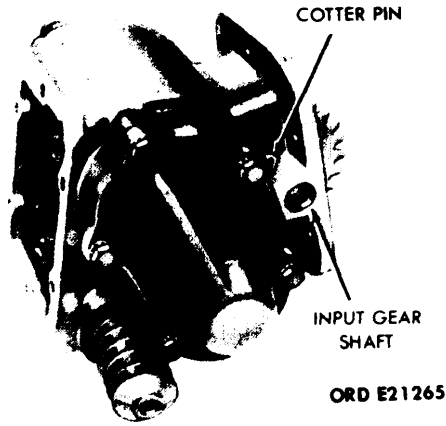

Figure 5-5. Removal of Input Gearshaft.
(1) Remove the input gearshaft cotter pin from the input gearshaft. (See fig. 5-5.) Using a soft driftpin, drive the input gearshaft from the case.
- i. Input gearshaft and input gear. (See fig. 5-5 and 5-6.)